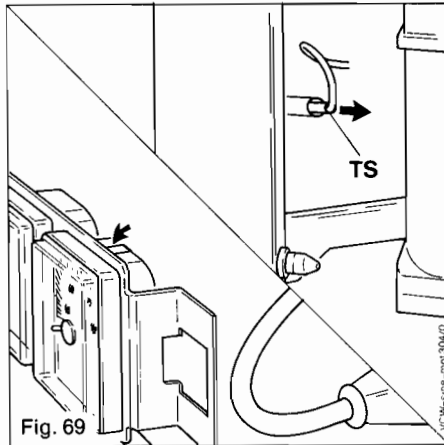

Fig. 69
14.13 Change of thermometer (Fig. 69)